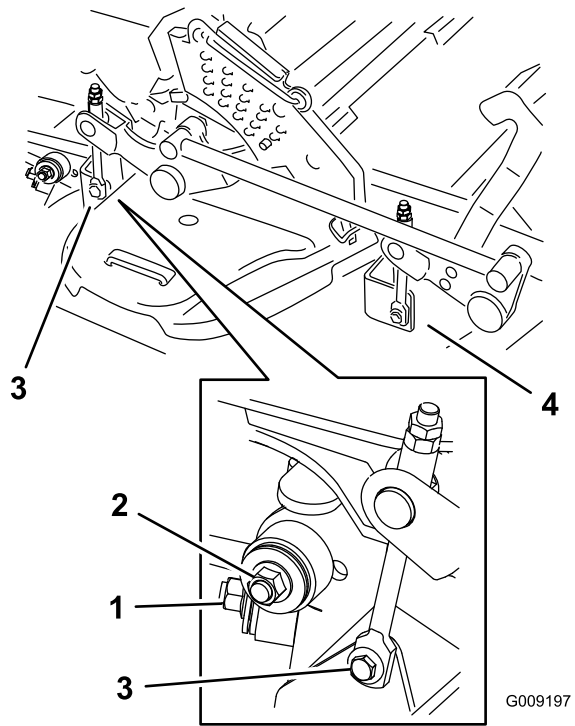

**Figure 96**
5. Lift up the floor pan and insert a ratchet into the square hole in the deck idler (Figure 96).
6. Rotate the deck idler clockwise and remove the mower belt (Figure 96).